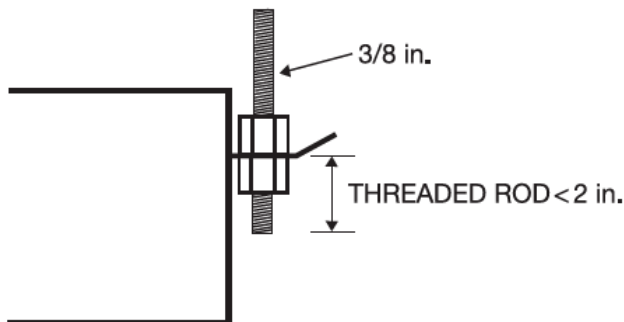

Fig. 11 —Threaded Rod
3. Secure the unit in position with locknuts and washers on the both sides of the unit bracket. Ensure the threaded rod does not protrude more than two inches below the mounting brackets as shown in Fig. 11.